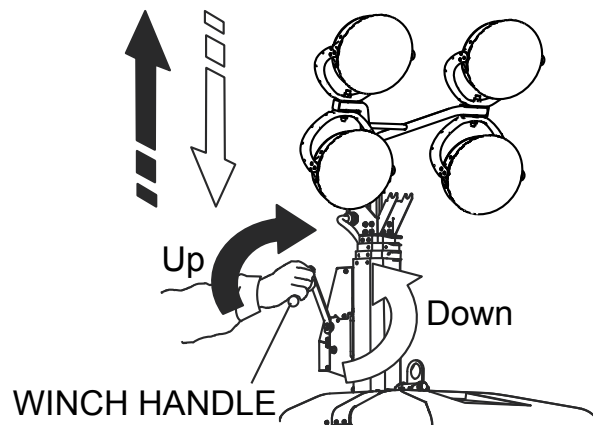

Figure 13. Extending the Mast
1. Turn the mast winch clockwise to raise the mast and observe that the mast begins to extend upwards (Figure 13).